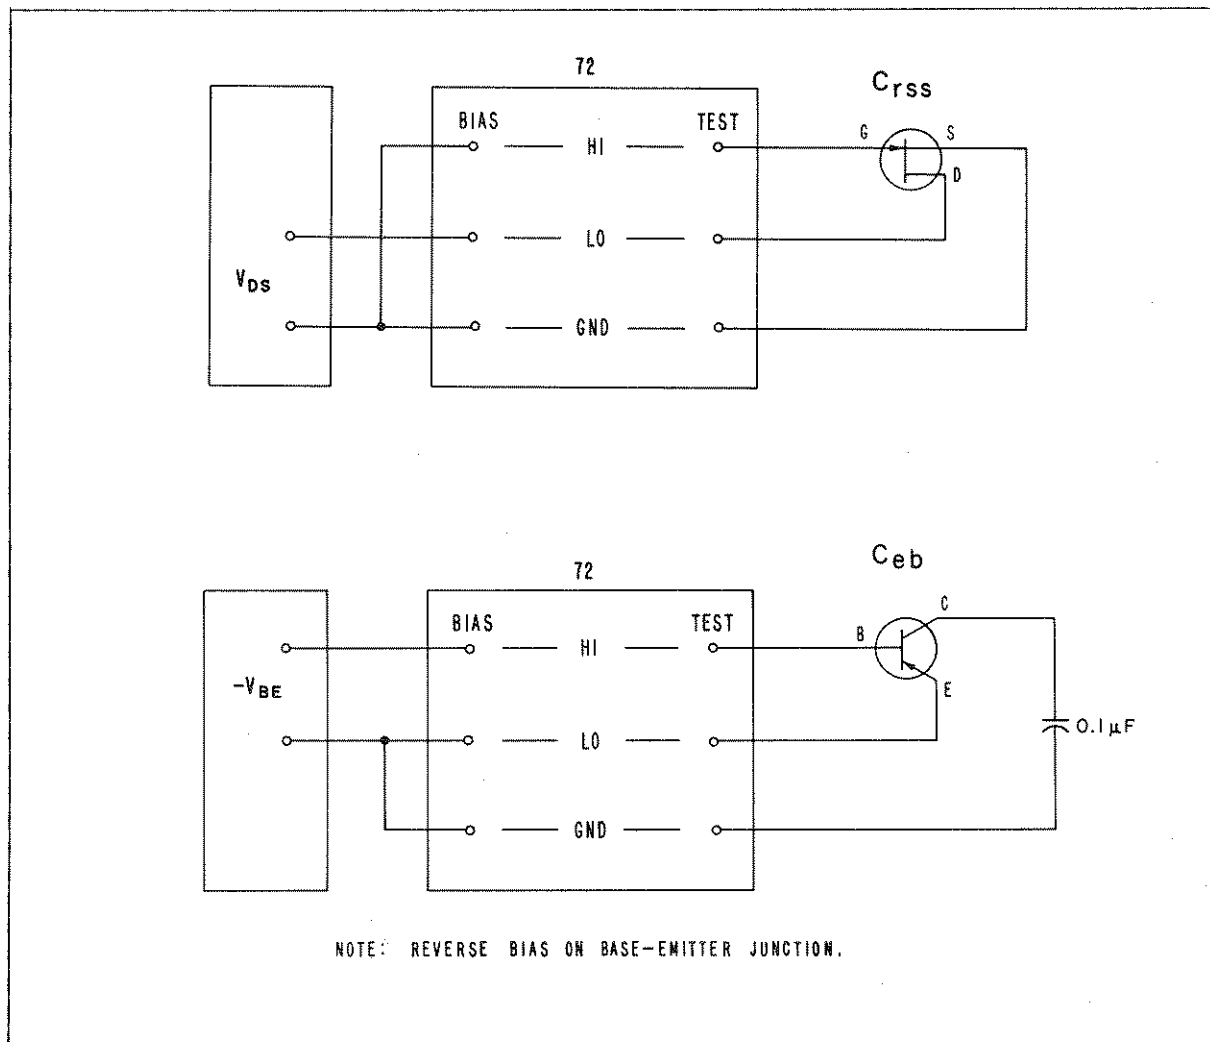

Figure 2-1. Transistor Capacitance Measurements: C_{rss} and C_{eb}
A. Capacitance (Three Terminal). See Figures 2-1 and 2-2.